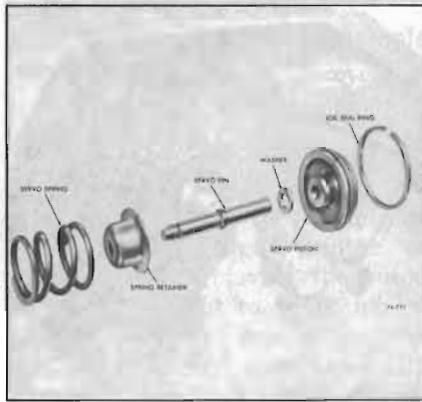

Figure 74-771
1. Install front servo spring and retainer into the transmission case. See Figure 74-771.
4. Install oil seal ring on front servo piston if removed, and install on apply pin so that identification numbers on shoulders are positioned toward bottom of pan. See Figure 74-771.